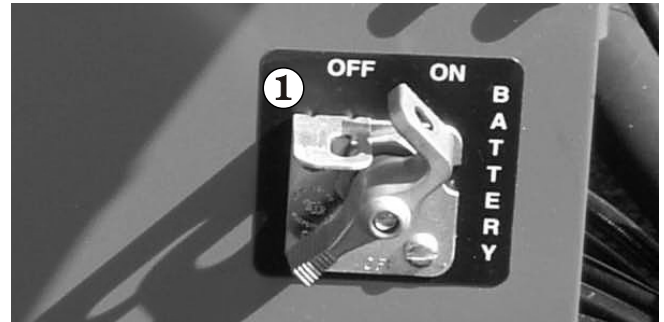

Figure 8.7
1. Set the **Battery** switch ① to on (see Figure 8.7).